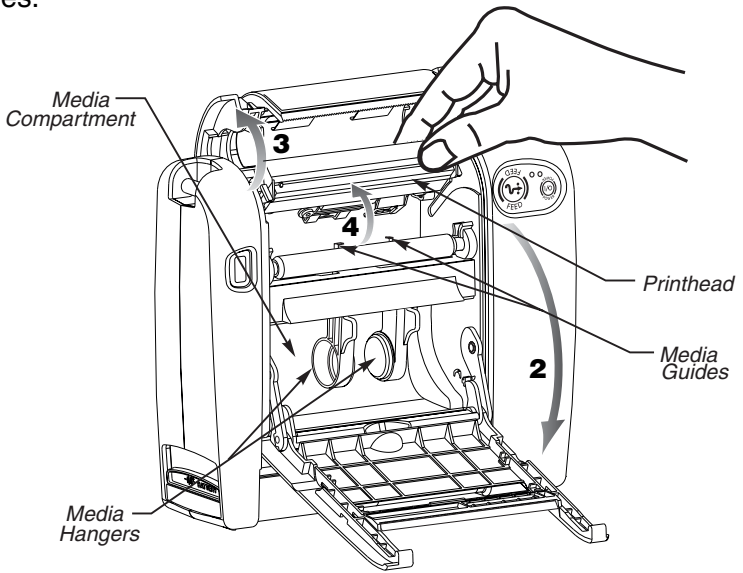

FIG. 5
2. Refer to Figure 5. Swing the media access door open to expose the media compartment.
5. Refer to Figures 5 and 6. Thread the media into the printer until it extends approximately 1" (25.4 mm) past the printhead.
5. Refer to Figures 5 and 6. Remove approximately 6" (152.4 mm) of labels from the media roll. Then, thread the media into the printer until it extends approximately 1" (25.4 mm) past the printhead.
2. Swing the media access door open to expose the media compartment (refer to Figure 5).